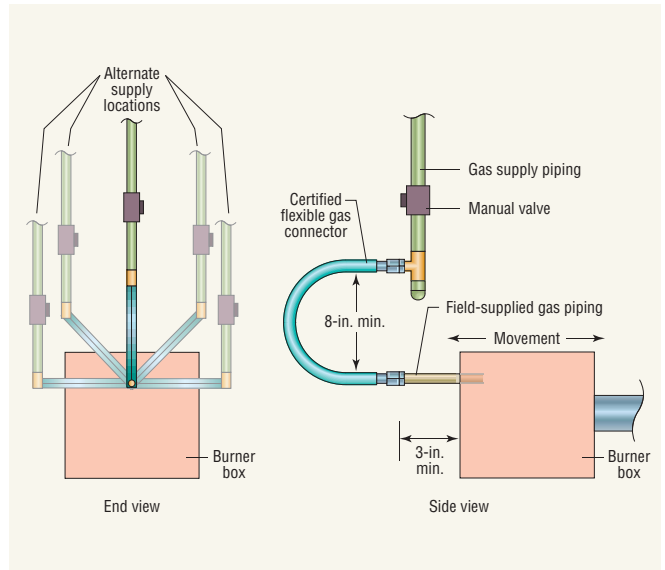

FIGURE 3.3 If local code allows, use flexible gas connectors for tubular IR heaters.
- Low-intensity units are installed burner box first; then tube systems are installed one tube at a time, starting from the burner and working toward the terminating end. While the tube system should be suspended with flexible mounting, the burner box should be rigidly mounted to avoid placing strain on the gas- and electrical-supply connections. If code allows, the use of flexible gas connectors may be used (Figure 3.3).